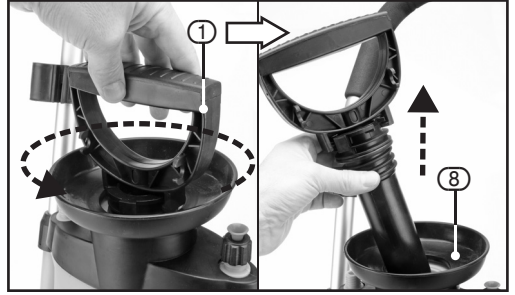

FIG.13
9.1 FILLING THE SPRAY BOTTLE – FIGS. 13 – 15
- Unscrew the pump handle ① anti-clockwise to loosen and remove from the pump handle/assembly from the fill inlet ⑧.
- Fill the spray bottle with your chosen liquid to the desired level through the fill inlet ⑧.